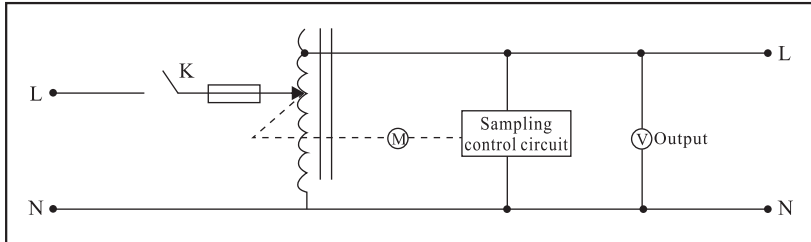
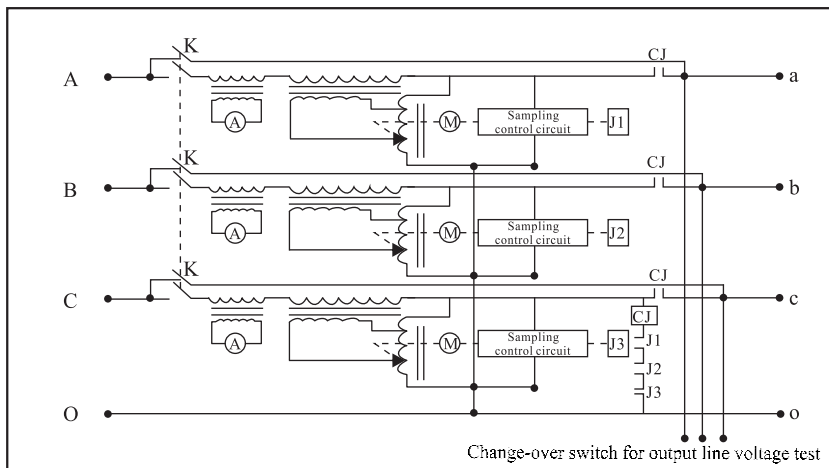

Fig. 2: Electric circuit diagram of single-phase products of SVM500VA~1500VA
Fig. 6: Electric circuit diagram of three-phase products of SVC15kVA and above
1. Electric circuit diagram of voltage stabilizer (see Fig. 2~ Fig. 6)